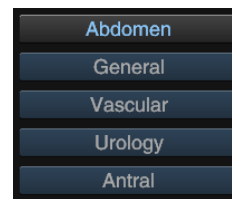

Figure 95
Use the trackball to move the cursor to the measurement card, such as **General**; click on **Set** to collapse the drop-down menu for that measurement card and display all measurement cards of that calculation software package accordingly Figure 95.
- Draw an ellipse according to **Ellipse Measurement** (see Section 9.2.1.4). There are many control points in the ellipse, as shown in Figure 95.